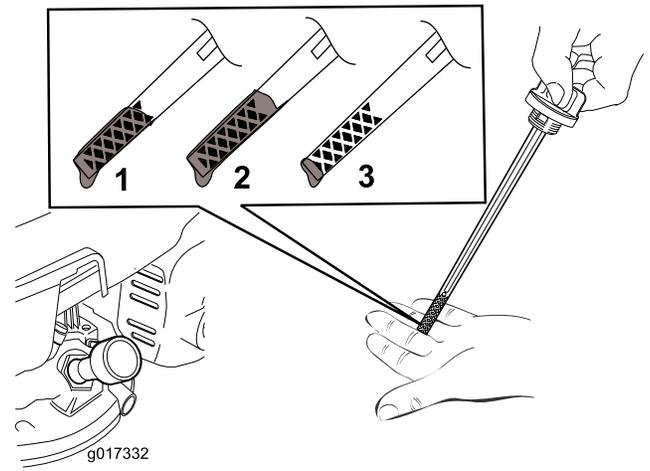

Figure 6
Note: Fill the engine crankcase with oil until the dipstick indicates that the engine oil level is correct as shown in Figure 6. If you overfill the engine with oil, remove the excess oil as directed in Changing the Engine Oil.
2. Remove the dipstick (Figure 6).